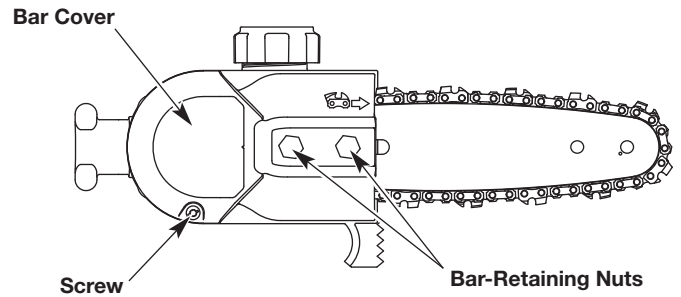

Fig. 10
1. Remove the screw and two (2) bar-retaining nuts. Remove the bar cover (Fig. 10).